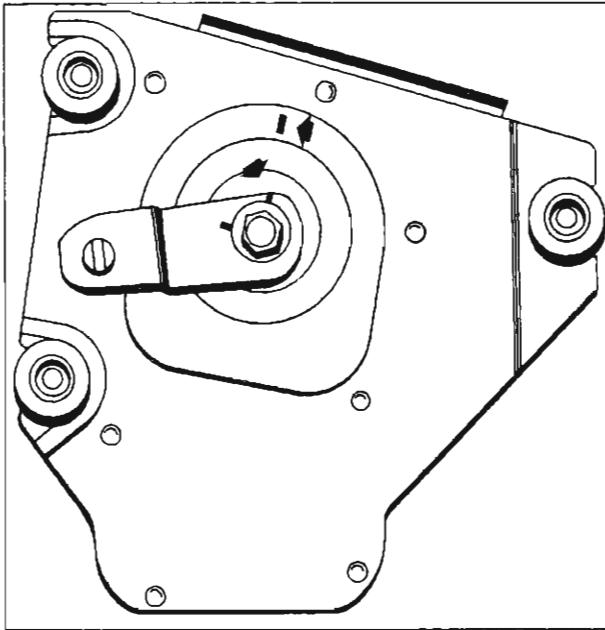
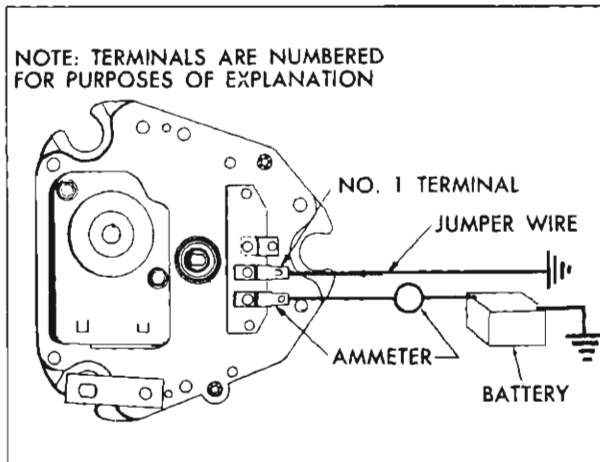

Fig. 62—Wiper Crank Arm in Park Position
Fig. 68—Checking Single Speed Wiper Circuit
1. Place wiper in park position and install crank arm output shaft, rotate crank so alignment marks line up with those on cover (fig. 62).
F. Wiper Shuts off Before Crank Arm Reaches Park Position	<p>Wiper crank arm stops rotating immediately when jumper wire is disconnected from wiper terminal No. 1 (fig. 68).</p> <p>NOTE: When crank arm has reached park position the crank arm index grooves will lineup approx. with the ridges on the gear box cover (fig. 62).</p> <ol style="list-style-type: none"> 1. Check for dirty, broken or bent part switch contacts.